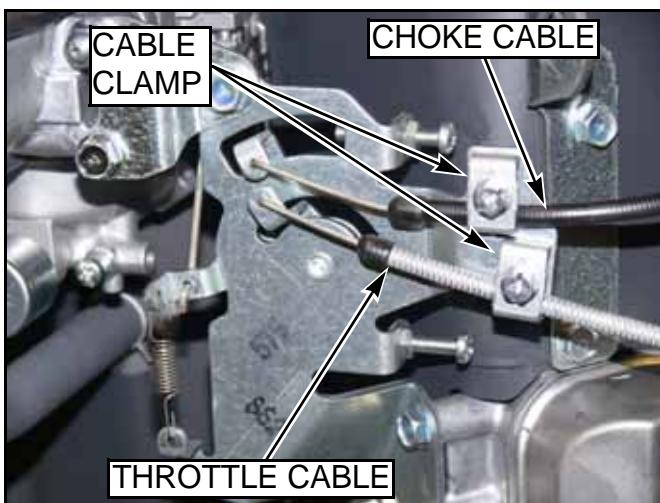
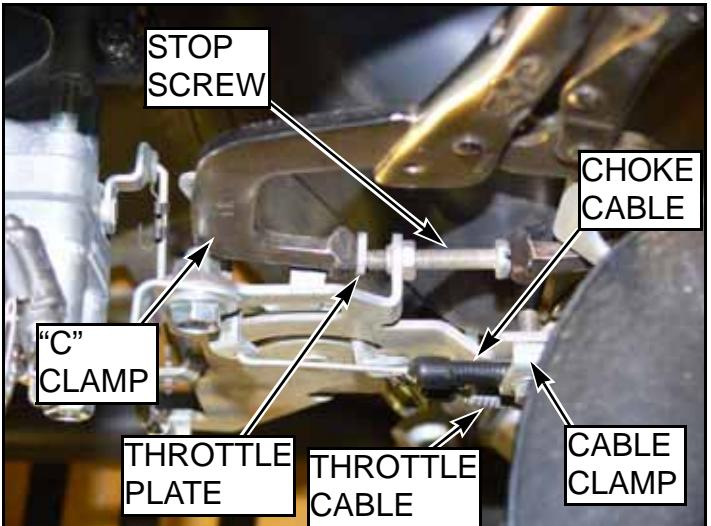

FIG. 13
FIG. 14
Choke and throttle cable connections to engine, see "FIG. 13".
**THROTTLE AND CHOKE CABLE INSTALLATION TO ENGINE (SEE "FIG. 13" & "FIG. 14").**